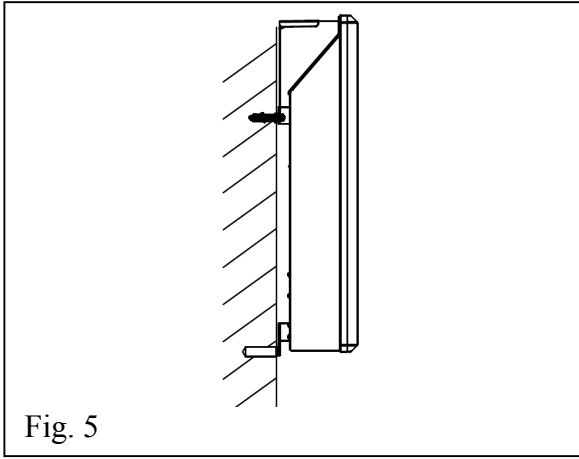

Fig. 5
3. The hook racks are pre-assembled on the back of the heater, hang the top two hook racks on the screws as picture (Fig. 5). Mark the two bottom hook rack's position on the wall and take away the heater, then drill **bottom two holes (Φ8)** on the wall and put expansion screw's plastic cover in the holes as picture (Fig. 5).